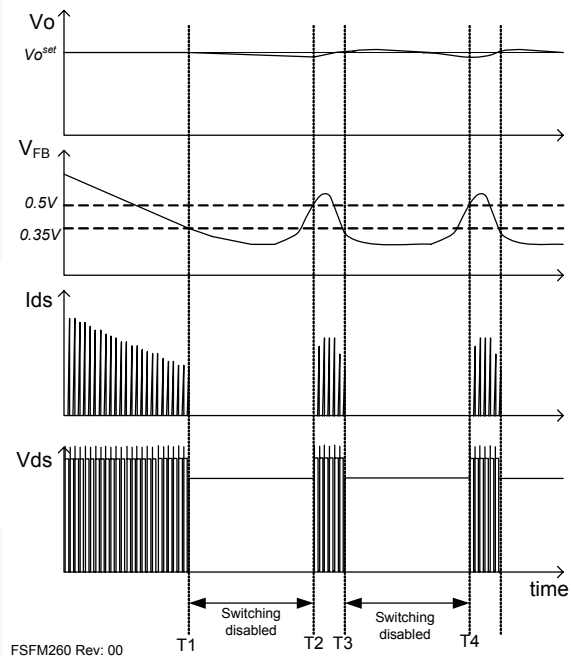

Figure 22. Waveforms of Burst Operation
5. Burst Operation: To minimize power dissipation in standby mode, the FSFM260/300 enters burst mode operation. As the load decreases, the feedback voltage decreases. As shown in Figure 22, the device automatically enters burst mode when the feedback voltage drops below V_{BURL} (350mV). At this point, switching stops and the output voltages start to drop at a rate dependent on standby current load. This causes the feedback voltage to rise. Once it passes V_{BURH} (500mV) switching resumes. The feedback voltage then falls and the process repeats. Burst mode operation alternately enables and disables switching of the power SenseFET, thereby reducing switching loss in standby mode.